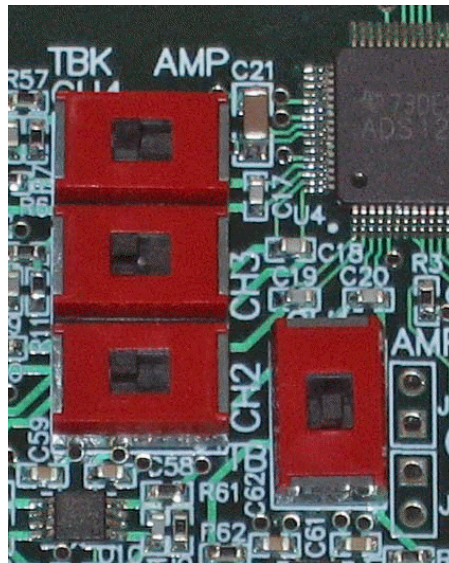

Figure 7. Amplifier Selection Switches
Each input signal can be selected to connect directly to the analog inputs of the ADS1274 or they can use the OPA1632 buffers that are provided. Switches S2-5 can be switched away from the ADS1274 to select the Terminal Block (TBK) or towards the ADS1274 to select the Amplifier (AMP) for the analog inputs 1 through 4 as shown in Figure 7.
Step 4. Set the jumpers and switches on the ADS1274EVM as shown in Figure 7 (note that these settings are the factory-configured settings for the EVM). Note that the default configuration for the EVM is to use external  $\pm 10V$  supplies for the input amplifiers.